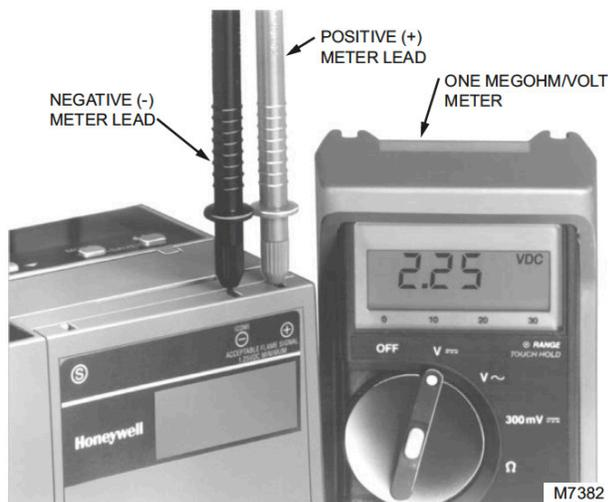

Fig. 17. Flame signal measurement.
Measure the flame signal at the appropriate times defined in the following checkout tests. Read the flame signal volts dc at the flame amplifier test jacks + and - (Com). See Fig. 17 and Table 13.
3. Insert the positive (red) probe into the + jack of the flame amplifier and the negative (black) probe into the - (Com) jack of the flame amplifier (see Fig. 17).